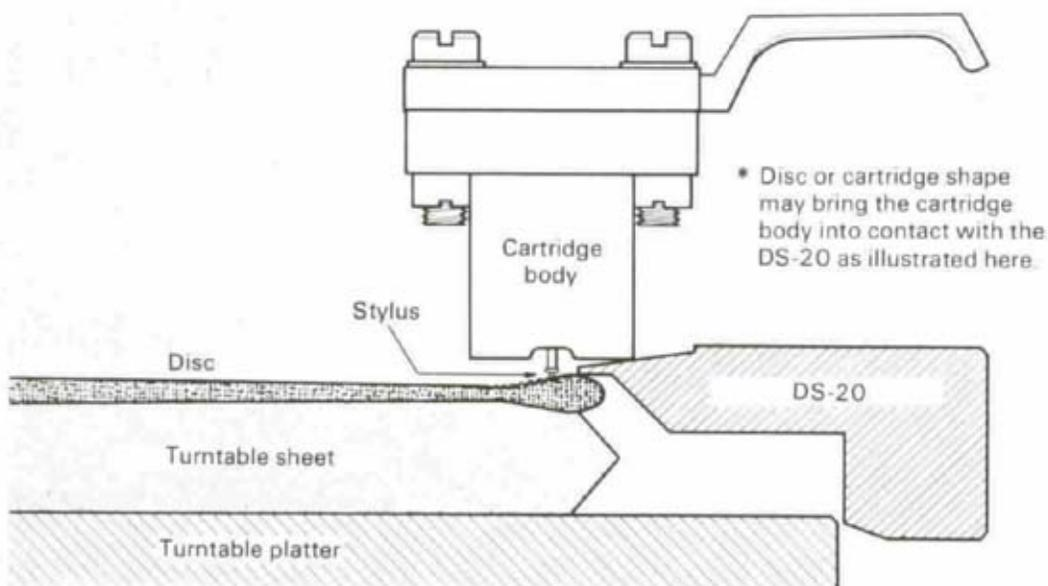

Fig. 10. Positional relationship between the disc and cartridge or DS-20
- The DS-20 holds the disc as illustrated in Fig. 10 in Section 8. Portions of the cartridge body may, however, touch the stabilizer in accordance with the shape or tracking force used. (For further details, see Sections 7 to 11.)
The outside diameter of most discs is reasonably uniform (80% falls into the specified range 301.0 ~ 301.9 (11.85 ~ 11.89 in.)), but the diameter of the outermost groove of less than 292.6 mm (11.52 in.) is not rigidly observed. Some records have an outermost groove diameter such that the cartridge body may touch the DS-20 depending on cartridge shape or tracking force used (Figs. 10 and 16), causing problems in tracing.